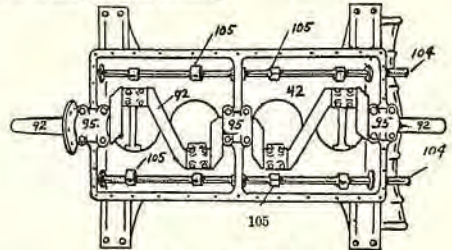
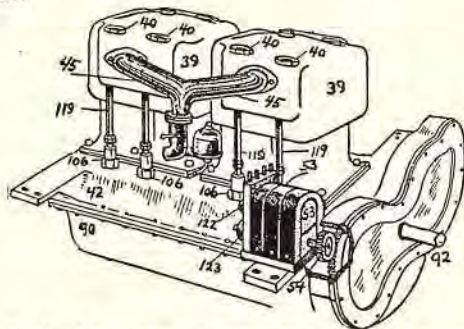
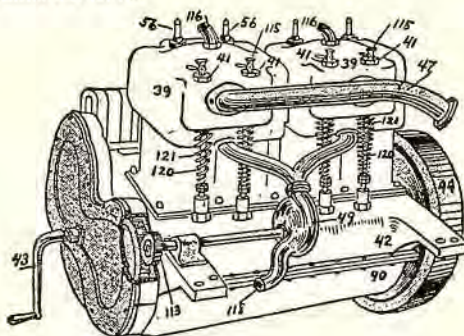

Fig. 4. Cam shafts.
Fig. 7. Inlet valves, inlet manifold, carburetor, magneto.
Fig. 8. Exhaust valves, manifold, fly wheel, pump, etc.
The cam shaft (104) (Fig. 4) with the four cams (105, nose-shaped) is now fitted to its bearings. In this engine there are two cam shafts: one with four cams for raising the four inlet valves, and the other, with its four cams (105), to raise the four exhaust valves.
The cam-shaft timing gears are keyed to the cam shaft (104) (Fig. 4); one gear and shaft to operate the inlet valves (119) (Fig. 7), and the other gear and shaft to operate the exhaust valves (120) (Fig. 8). The gear-case cover is placed over gears.
The inlet valves (119) and exhaust valves (120) are placed in their seat by passing them through the inlet-valve cap holes (40) (Fig. 7) and exhaust-valve cap holes (41) (Fig. 8).
The exhaust manifold (47) (Fig. 8) is bolted to the exhaust side of the cylinders, and is connected with the muffler at the rear of the car, by the exhaust pipe (47).
The magneto (53) (Fig. 7) (a high-tension magneto is used for ignition in this example), is bolted in place on a brass base provided for it, on the side of the engine. An extra gear (which will be explained farther on) is operated by the cam shaft and drives the magneto, which generates electricity. The electricity is distributed to the four spark plugs (56) at certain periodical times by the distributor on the magneto (122) (Fig. 7).